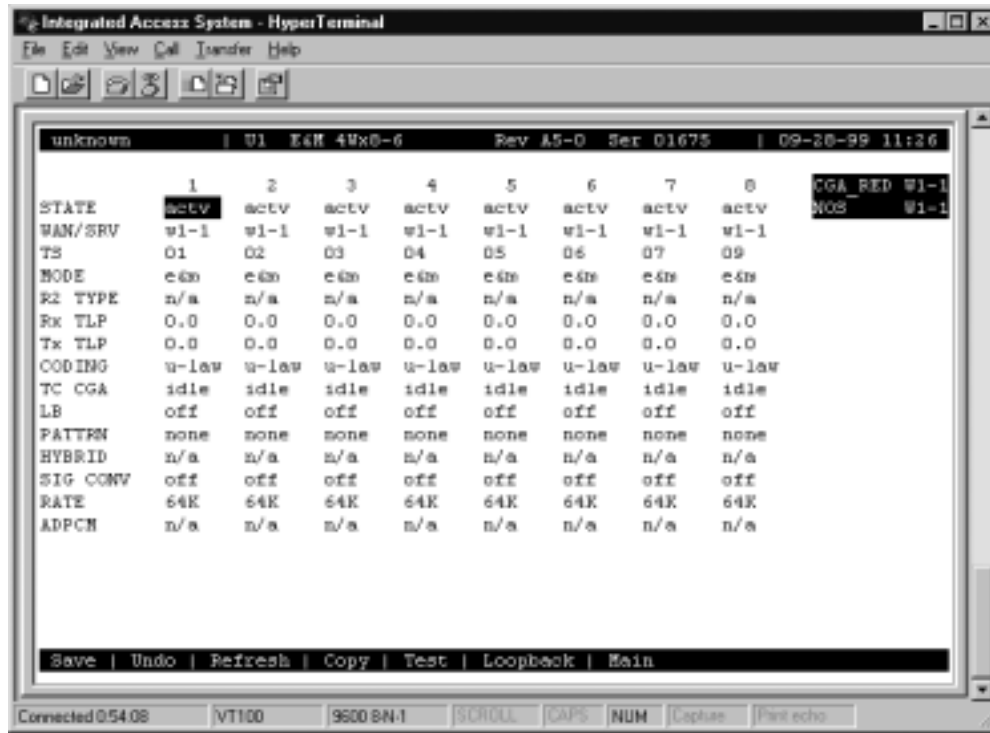

Figure 4-17. Typical E&M Card Time Slot Assignments
You can define a time slot map from any user card (data or voice) for connections involving that card, or from a WAN card for cross-connections involving only WAN cards. For example, Figure 4-17 shows the E&M Card Main Screen for the time slot assignments. Assign time slots to a voice card as follows:
2. Select the WAN port from which you want to assign time slots to the E&M card. In Figure 4-17, this is **W1-1** (for WAN 1, port 1).
3. Select a time slot (TS) for the first card port. A number appears at the bottom of the screen for the corresponding time slot on the WAN port.